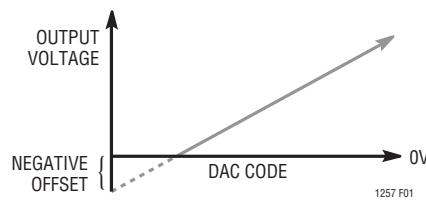

Figure 1. Effect of Negative Offset
**Offset Error:** The theoretical voltage at the output when the DAC is loaded with all zeros. The output amplifier can have a true negative offset, but because the part is operated from a single supply, the output cannot go below ground. If the offset is negative, the output will remain near OV resulting in the transfer curve shown in Figure 1.